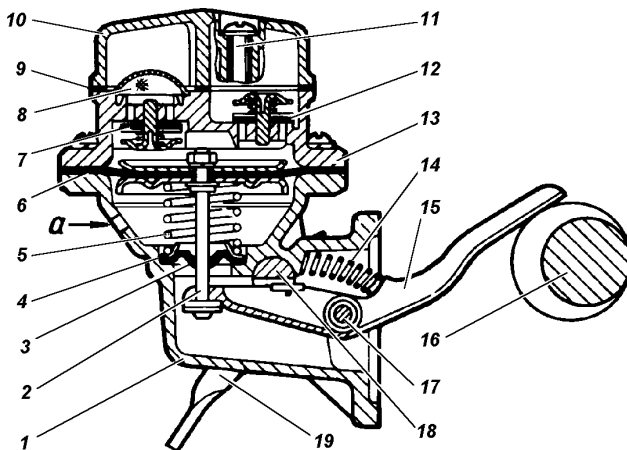

Fig. 26. Fuel pumps of B9B type\*:
**Fuel pump.** Periodically check the fuel pump through the inspection hole "a" (Fig. 26) for leakage of fuel. Leakage of fuel indicates, that the diaphragm is faulty.